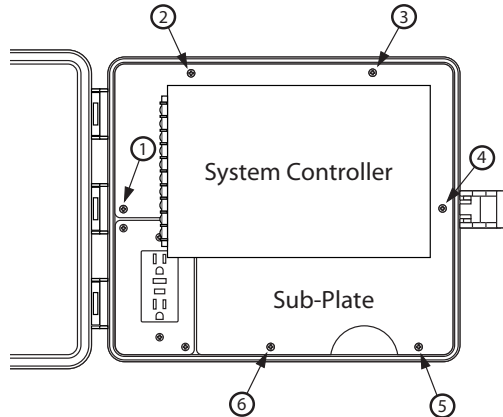

Figure 1: Removing the Sub-Plate
- (1) Remove the Sub-Plate by removing the six (6) screws as shown in Figure 1. Pull the Sub-Plate out of the box.